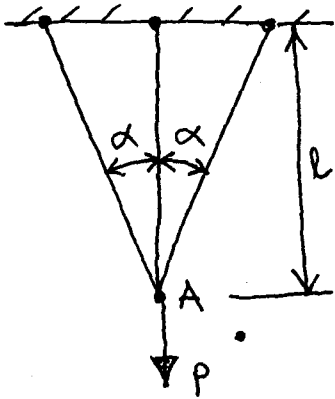

Fig. Q8
Q.8. Using energy principle, calculate the deflection of joint A (Fig. Q8). Assume that each wire has same cross sectional area  $A$  and modulus of elasticity  $E$  in tension.